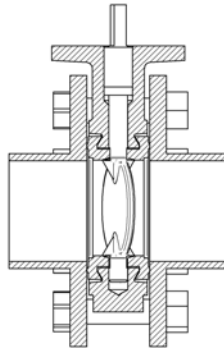

FIGURE 2. VALVE IN PARTIALLY OPEN POSITION
- Step 4. To prevent damage to the disc sealing edge during installation, position the disc in the “partially open” position (Figure 2) so that the disc is still contained within the valve body.